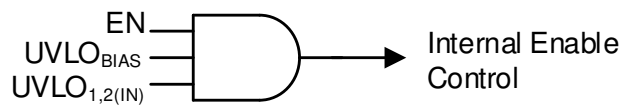

Figure 6-3. Simplified Turn-On Control
Controlling when a single power supply turns on can be difficult in a power distribution network (PDN), because of the high power levels inherent in a PDN and the variations between the supplies. As shown in Figure 6-3 and Table 6-2, the LDO turn-on and turn-off time is set by the enable circuit (EN) and undervoltage lockout circuits ($UVLO_{1,2(IN)}$ and $UVLO_{BIAS}$).